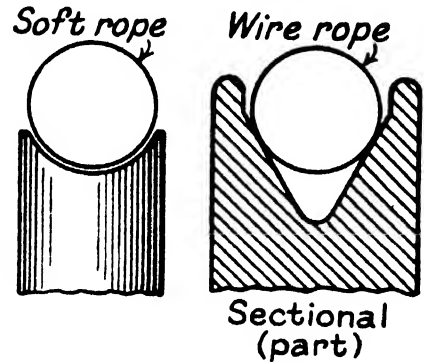

FIG. 14.—Types of Sheaves for Rope-blocks.
**Sheaves.**—The sheaves are of cast iron of good close grained quality ; brass ones may be seen in some of the London pattern blocks made for use on board ships, but cast iron is the metal commonly seen. This may appear strange, and rather an unwise selection to the engineer unacquainted with block tackle, but it is quite good practice. The sheaves of the London pattern rarely suffer damage in spite of rough usage, but, with wire rope sheaves, care must be taken that the flanges do not get chipped. It is not suggested that they are fragile, but the only damage one sees done to these is the chipping of the rims. The sketch (Fig. 14) illustrates this liability.